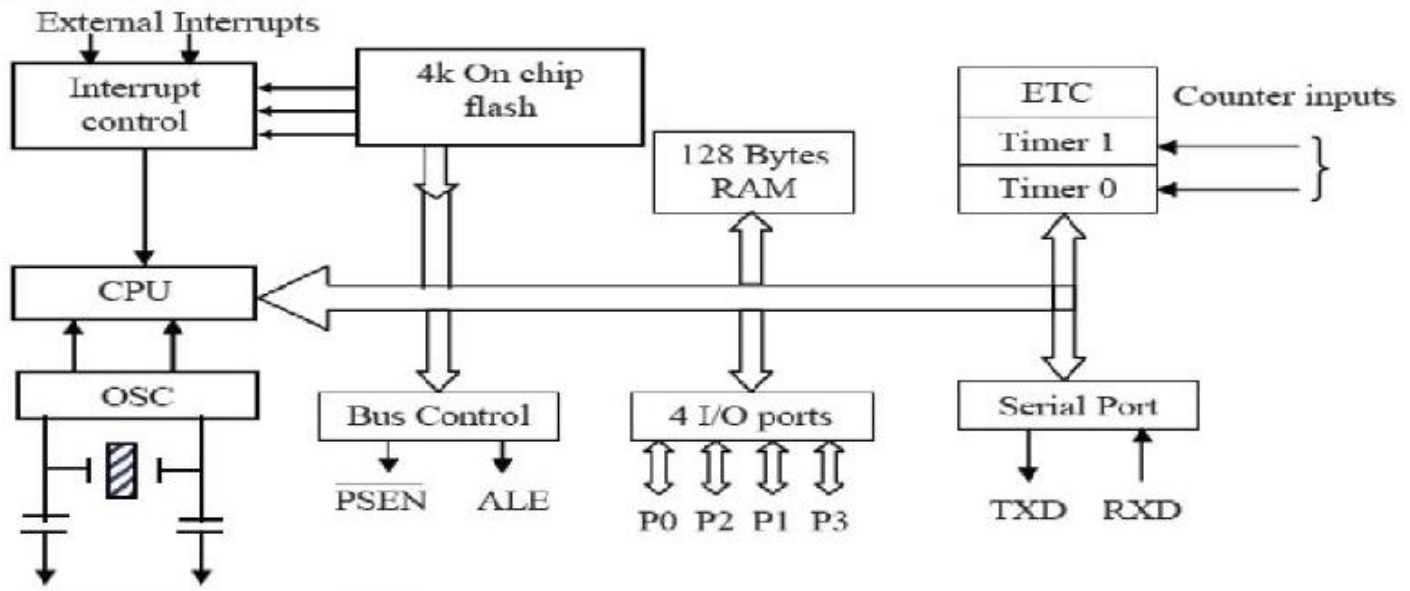

Fig.3. Block Diagram of 8051 Microcontroller
- ✓ The block diagram of 8051 microcontroller is shown in Fig 3.